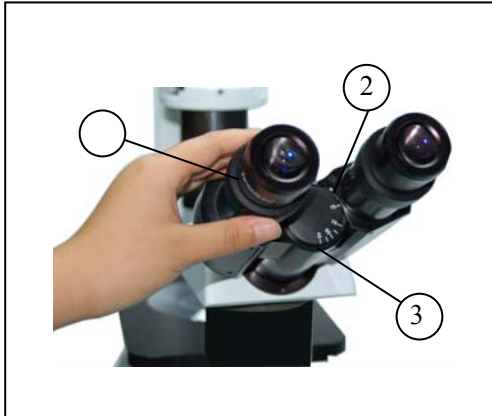

Figure 21
#### 4-3-1 Adjusting the diopter (fig. 21)
★ The reticle on the interpupillar distance indicator③, pointed by the spot “.”② on the eyepiece holder, shows the scale of the interpupillar distance. (fig.21)